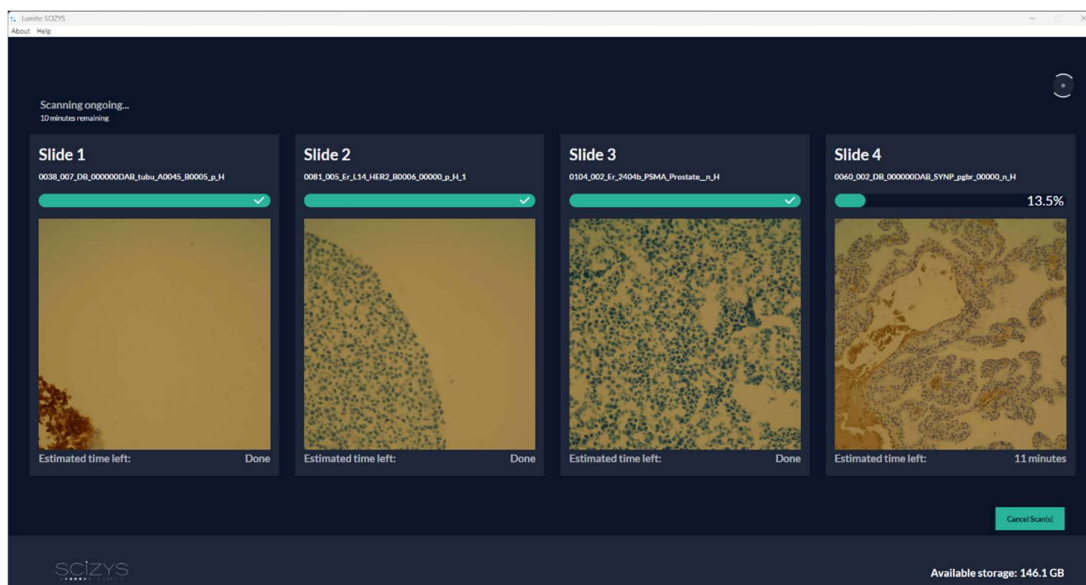

Figure 6-26 Completed scans indicated by filled progress bars and “Done” as status. In this case, three out of four slides have finished.
3. A filled green progress bar with a white checkmark and the status “Done”, indicates that the scanning is complete for an individual slide (Figure 6-26). The files of the completed slides are immediately available in the save location.